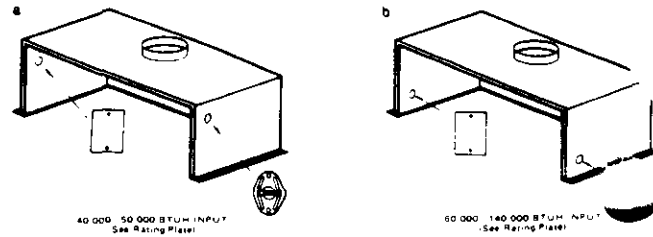

Figure 28 (4-023)
- a. If gas and electrical controls are "as-shipped", install VLS as follows. See Figure 28 for correct VLS and hole cover location if you moved draft diverter.